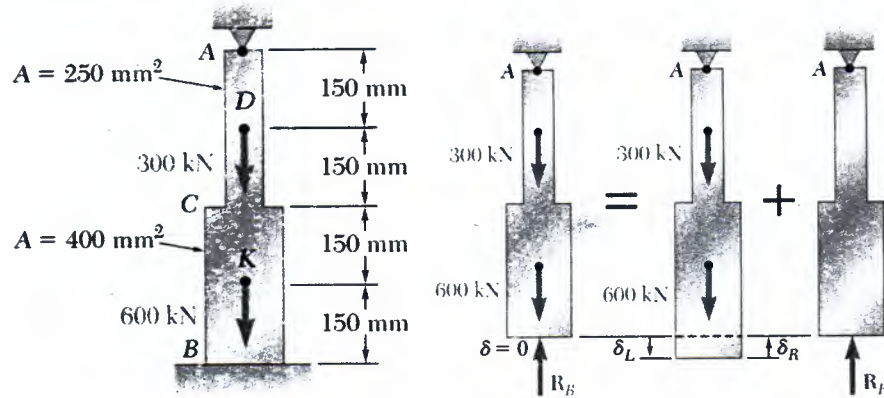

Figure 3
- c. Determine the reactions at A and B for the steel bar and loading shown in Figure 3, assuming a close fit at both supports before the loads are applied. Use the details in the figure shown below. [5]